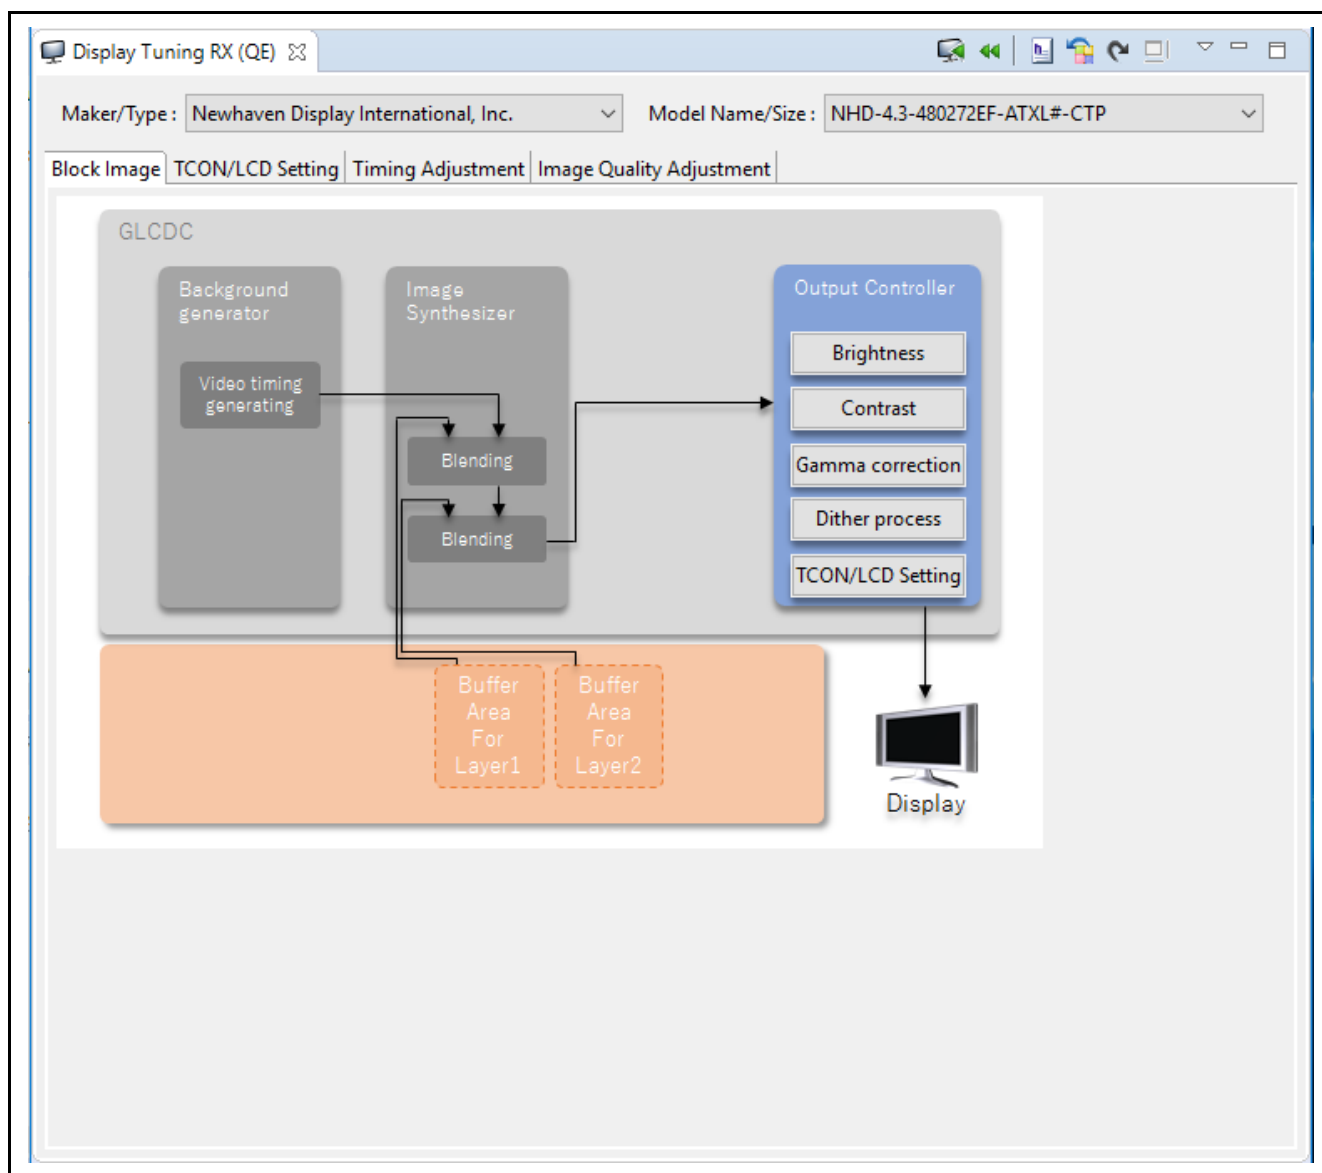

Figure 8-1 Initial State of QE for Display [RX]
Selecting [Renesas Views] -> [Renesas QE] -> [Display Tuning RX (QE)] from the menu of the e² studio starts QE for Display [RX] (Figure 8-1).
Figure 8-1 is the display of a block diagram of the hardware of the GLCDC, showing the path for the output of image data and the relationships between the positions where images are to be corrected. Clicking on [Brightness] or [Contrast] for the adjustment of image quality produces the [Image Quality Adjustment] tabbed page, which allows various adjustments.